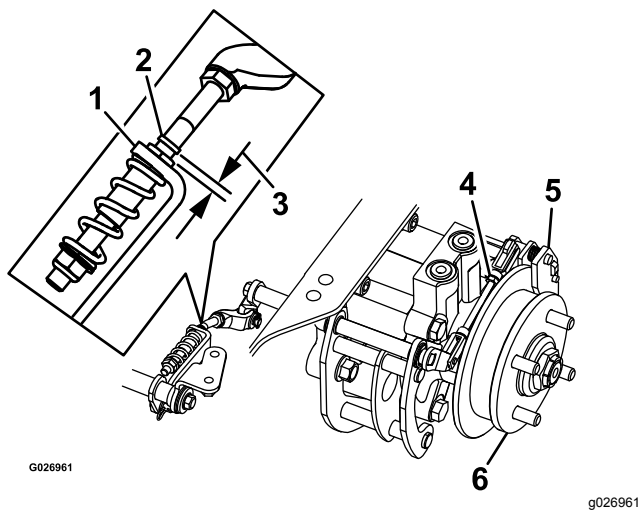

Figure 73
8. Check if there is a visible gap between the L-bracket and the linkage stop (Figure 73).